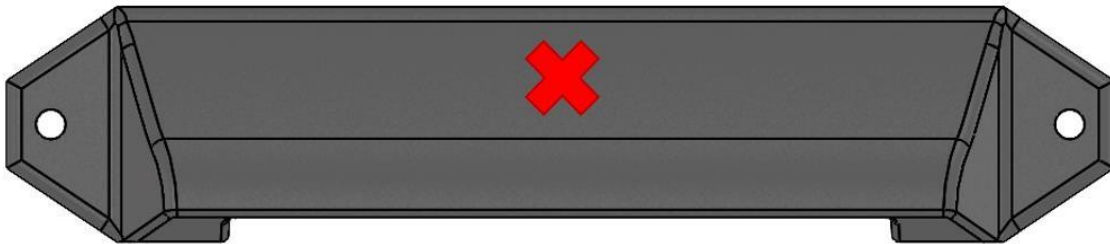

Figure 1: Cable Exit Location (Drilled into mounting surface – see step 2)
2. Drill a hole with the 1/4in drill bit at the center of the mounting location. Figure 1 has an "X" at the approximate location of the center hole where the wires will be routed.